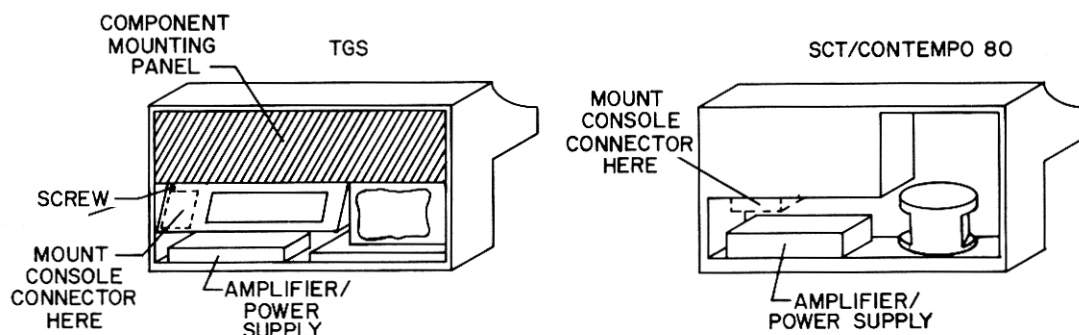

Figure 2. Console Connector Installation Locations
10. Route the cable to the part of the organ indicated in figure 2 for the console connector mounting location.
10. Pass the cable from the control center over the partition and route it through the interior to the part of the organ indicated in figure 2 for the console connector mounting location.
CONSOLE CONNECTOR MOUNTING (organ back panel already removed) (See figure 2.)